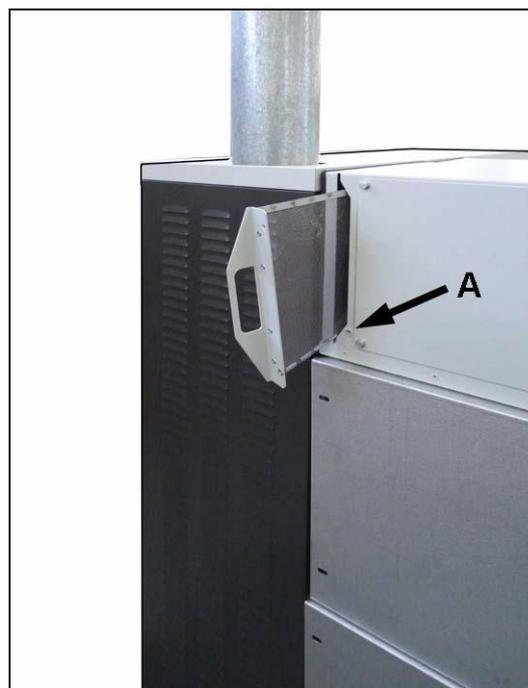

Fig. 13.1
**Steps for cleaning the filter** (Fig. 13.1).
- Remove the screw (A) securing the filter to the back cover.